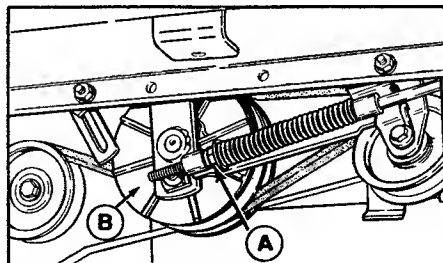

**Figure 25. Speed Control Lever**
4. Loosen the shoulder bolt (A, figure 25) so it is free to slide in the slot.
12. Raise seat deck. Place your finger on the bar (B, figure 25) and press down until it stops.